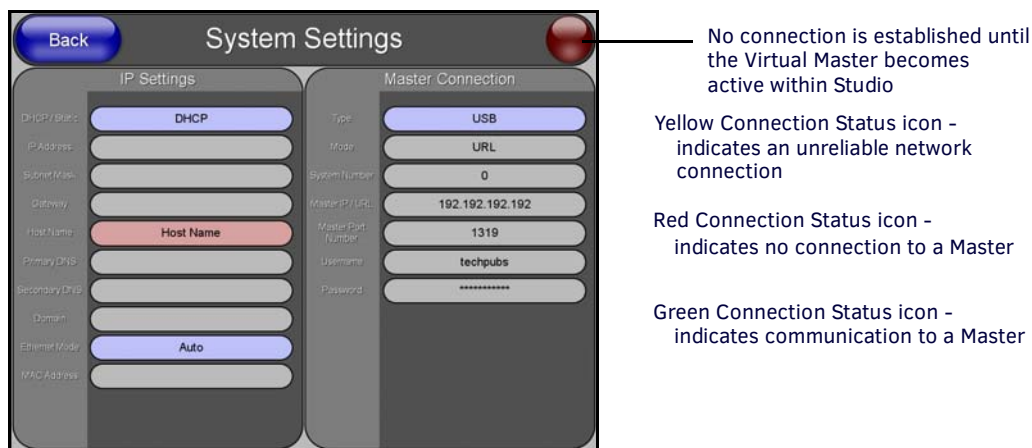

FIG. 71 System Settings page - using a USB Connection Type
4. Select **Protected Setup > System Settings** (located on the lower-left) to open the System Settings page (FIG. 71).